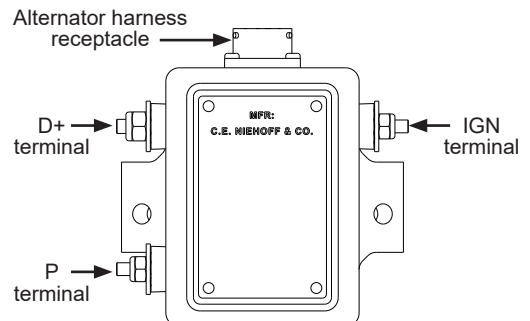

Figure 8: N3044 Regulator Connections
- Plug alternator-to-regulator harness into receptacle on regulator. See Figure 8 for receptacle location.
- Regulator IGN terminal (required) must receive voltage from vehicle DC ignition source or multiplex system in order to energize charging system. Torque to 3.4 Nm/30 lb. in. See Figure 8.
- Regulator D+ terminal (if required by vehicle) provides DC system battery voltage to vehicle (5A maximum) for charge indicator lamp, relay, or multiplex while alternator is producing output. Torque terminal hardware to 3.4 Nm/30 lb. in. See Figure 8.
- Regulator P/AC/R terminal (if required by vehicle) taps AC voltage from alternator, typically half the charge voltage (5A maximum). P/AC terminal provides alternator RPM frequency at 10:1 ratio for use with tachometer. Torque terminal hardware to 3.4 Nm/30 lb. in. See Figure 8.